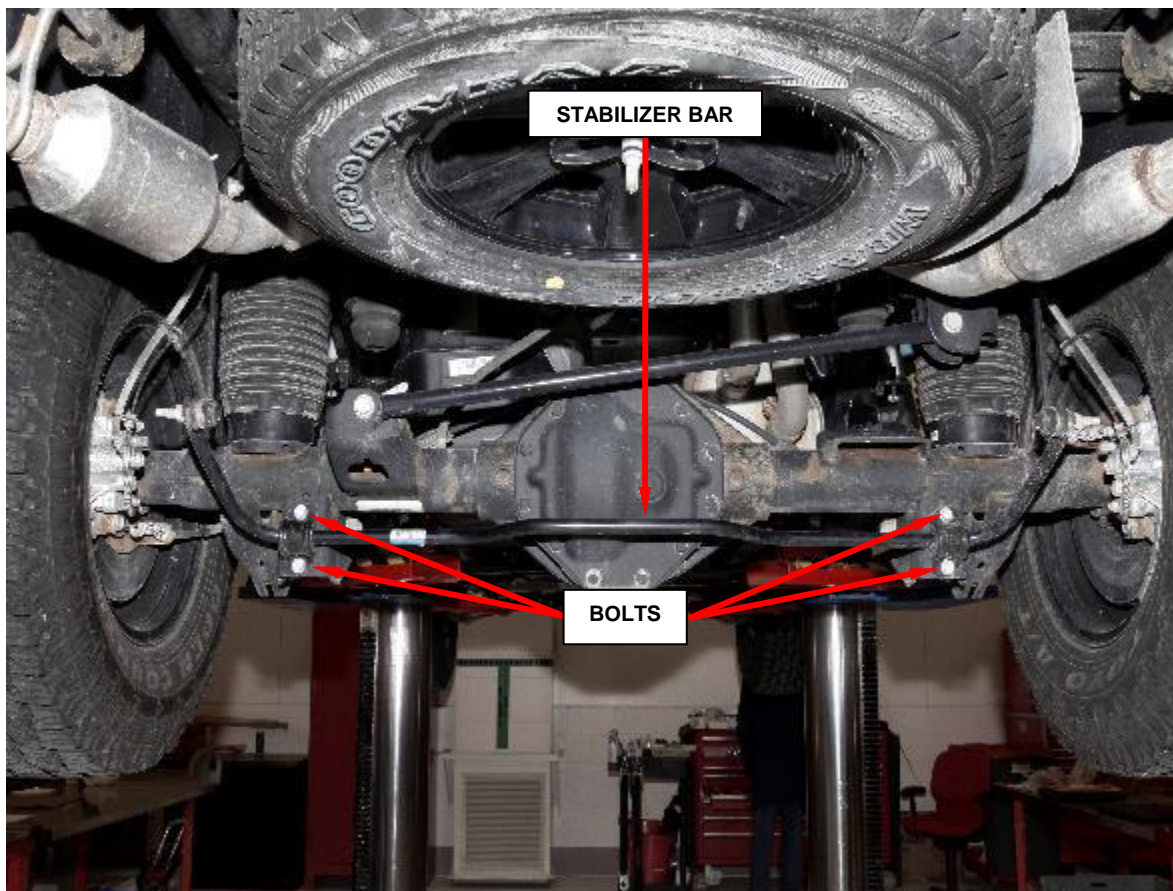

Figure 13 – Stabilizer Bar Bolts
15. Remove and save the stabilizer bar bolts and position the stabilizer bar aside or hang from wire off of the spare tire (Figure 13).